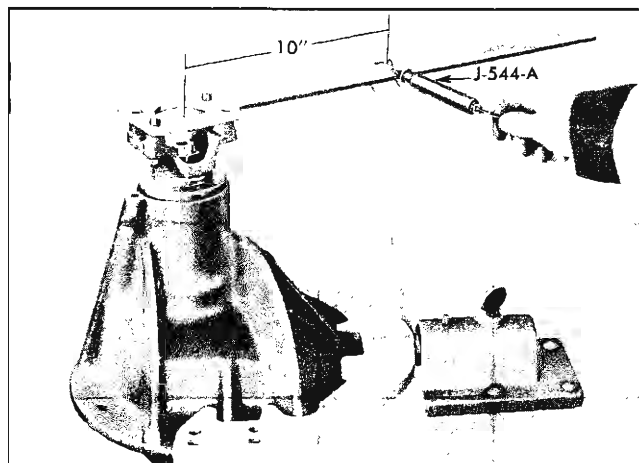

Fig. 4-50 Checking Pinion Bearing Preload with J-544-A
**NOTE:** Torque measurement may be taken using steering gear adjusting spring scale J-544-A hooked to holding tool J-6289 at a point 10 inches from pinion shaft center (Fig. 4-50). Reading in pounds times 10 inches will give pound-inches; thus three pounds on spring scale will indicate thirty pound-inches. Readings between pound graduations must be read in tenths rather than in ounces, for example, 3 pounds 8 ounces is read 3.5 pounds or 35 pound-inches.